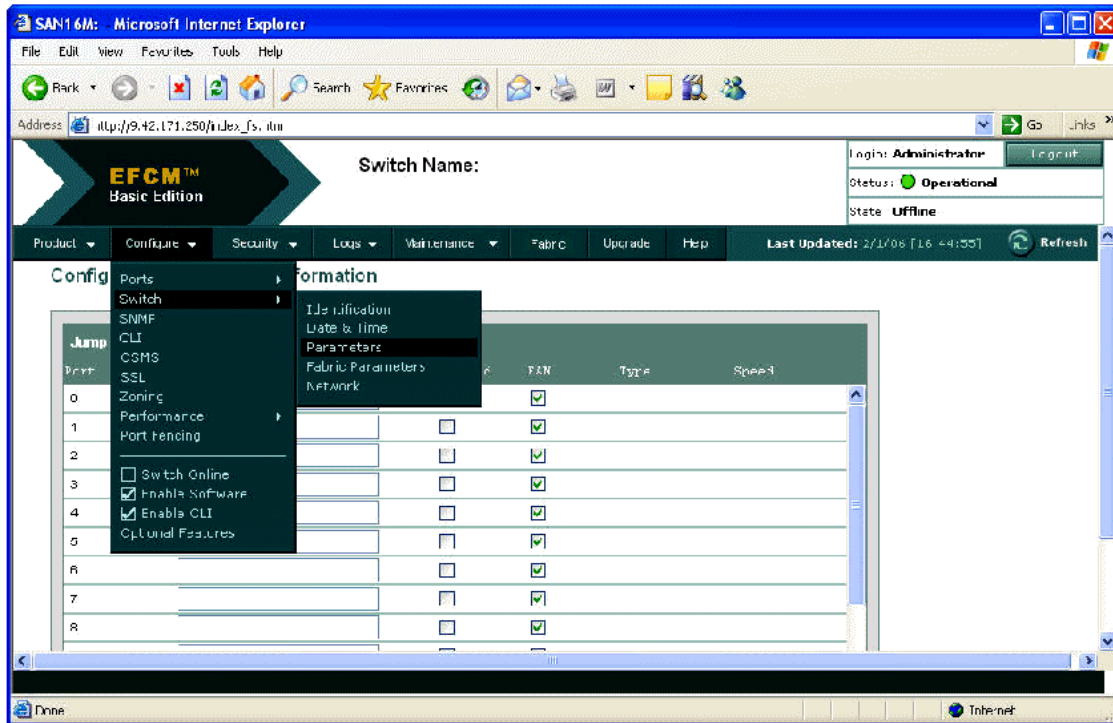

Figure 6-13 Configure dialog window
7. Select **Configure** → **Switch** → **Parameters** (Figure 6-13).